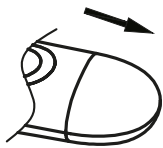

Figure 3
2. Pull battery cover off as shown in Figure 3.